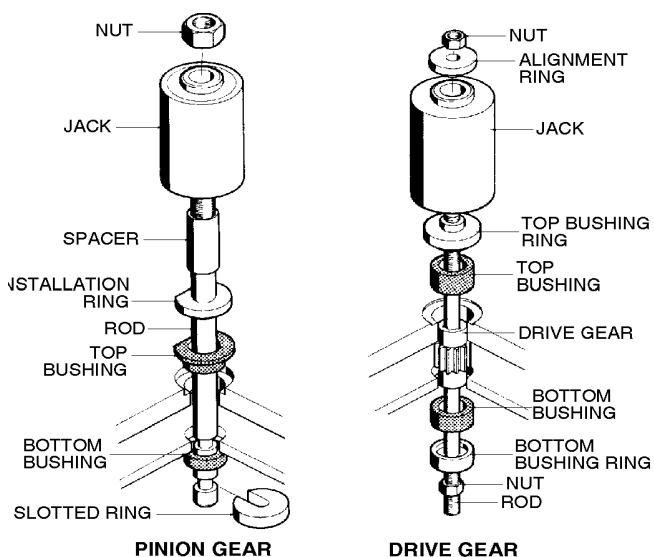

FIGURE 1. BUSHING REMOVAL
5. Install the bushing removal tool (IMT part number 92091200) as shown in Figure 1.